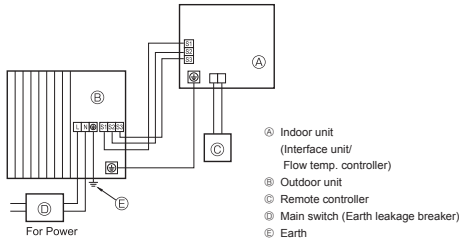
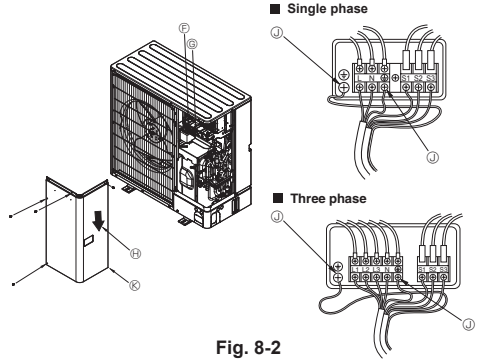

Fig. 8-1
Fig. 8-2
### 8.1. Outdoor unit (Fig. 8-1, Fig. 8-2)
- ① Remove the service panel.
- ② Wire the cables referring to the Fig. 8-1 and the Fig. 8-2.